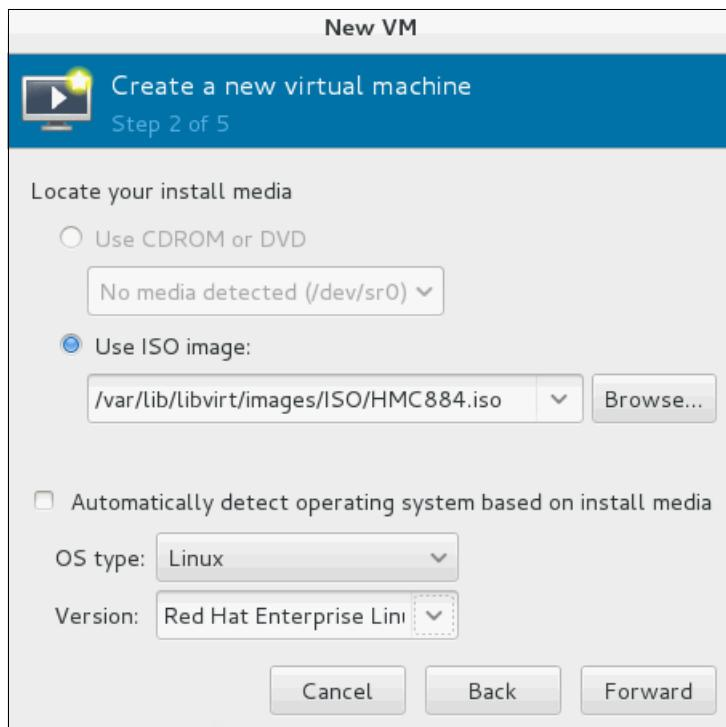

Figure 3-24 Locate an ISO image
4. In the *Step 2 of 5* panel (Figure 3-24), click **Browse** to locate the ISO image previously uploaded in the ISO storage pool. Deselect the **Automatically detect the operating system** check box and then specify the Linux OS and RHEL 6.3 version. Click **Forward**.